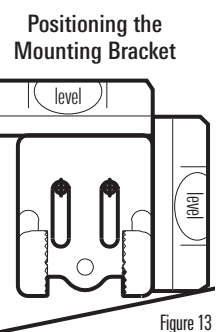

Figure 13
- Hold the mounting bracket against the transom of the boat in the location you have selected (Figure 13). Align the bracket horizontally, using the level. Review the following clearance requirements to determine the mounting position: